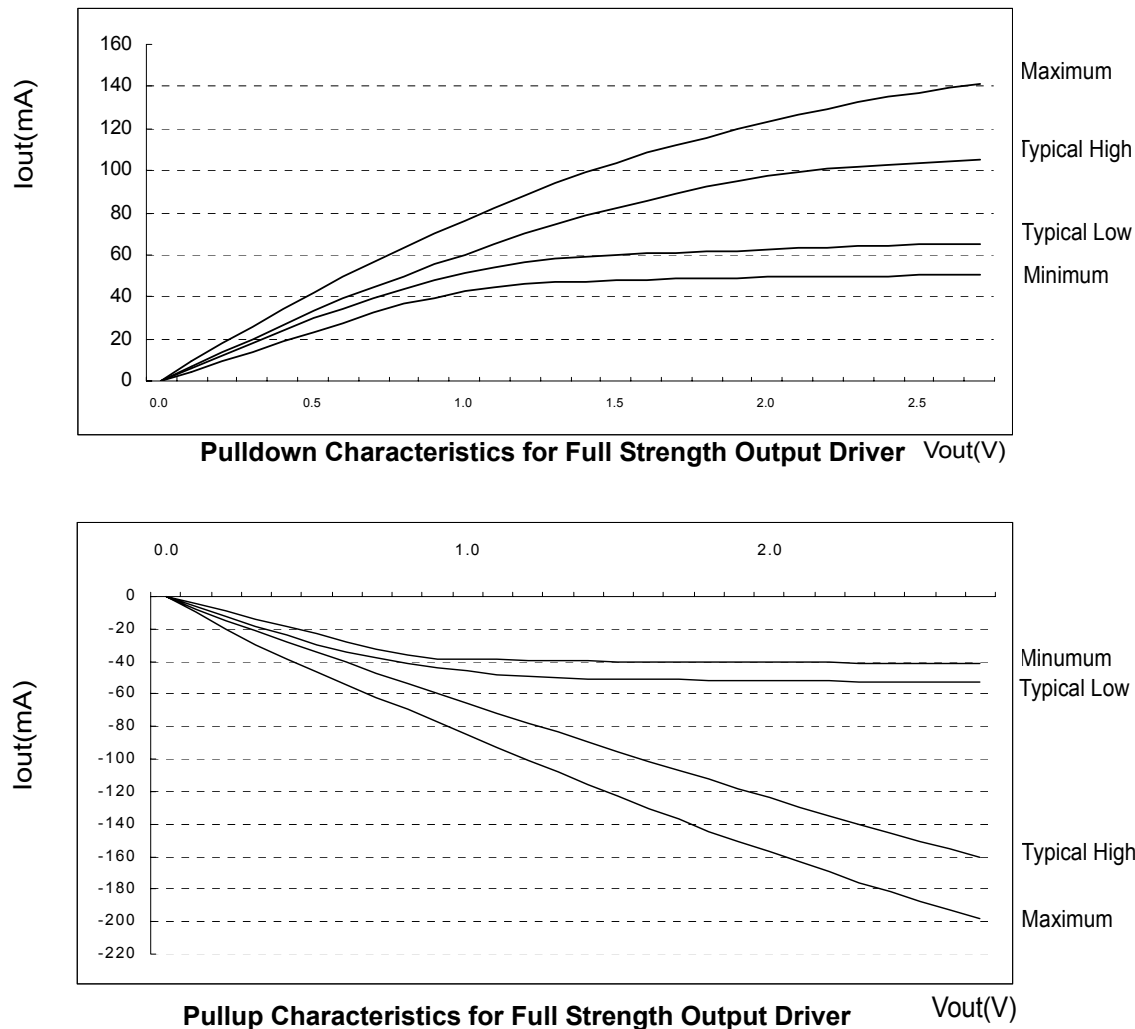

Figure 4. I/V characteristics for input/output buffers: Pulldown(above) and pullup(below)
Figures 4 and 5 show the driver characteristics graphically, and tables 8 and 9 show the same data in tabular format suitable for input into simulation tools. The driver characteristics evaluation conditions are:
1. The full variation in driver current from minimum to maximum process, temperature and voltage will lie within the outer bounding lines the of the V-I curve of Figures 4 and 5.
2. It is recommended that the "typical" IBIS V-I curve lie within the inner bounding lines of the V-I curves of Figures 4 and 5.